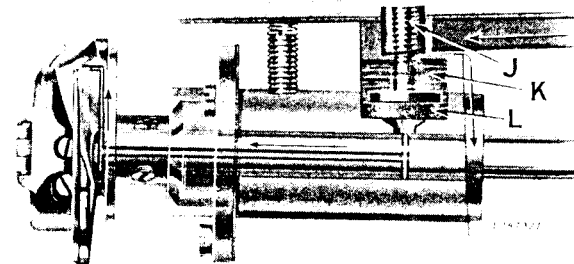

Fig. 5. Cross-section View of Work-Supporting Arm Showing Automatic Hook Lubrication System
The hook shaft bearing and hook race are automatically lubricated from the reservoir (K, Fig. 5) which is kept filled to a constant level by gravity. The flow of oil may be regulated by pressure of the adjusting screw (J) on the felt pad (L). To increase the flow of oil, turn the screw (J) to the left, and to decrease the flow, turn it to the right.